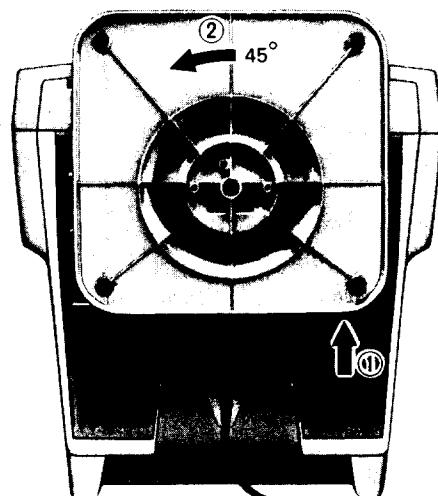

Figure 15
- e) Slide the swivel up. (Figure 15)
- f) Turn the swivel  $45^\circ$  counter-clockwise. (Figure 15)